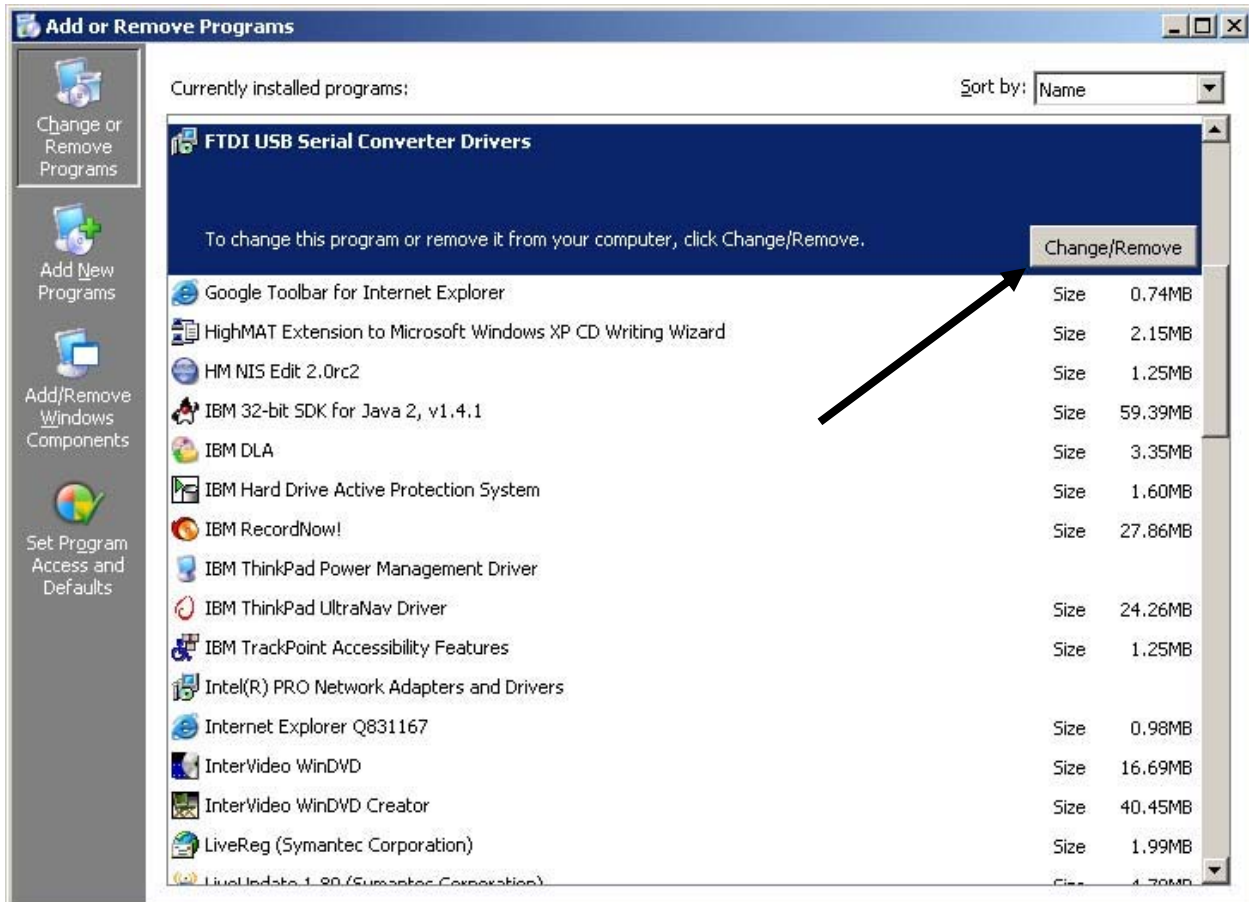

Figure 37
5. Click **Change/Remove** in the **FTDI USB Serial Converter Drivers** section. (Figure 37).